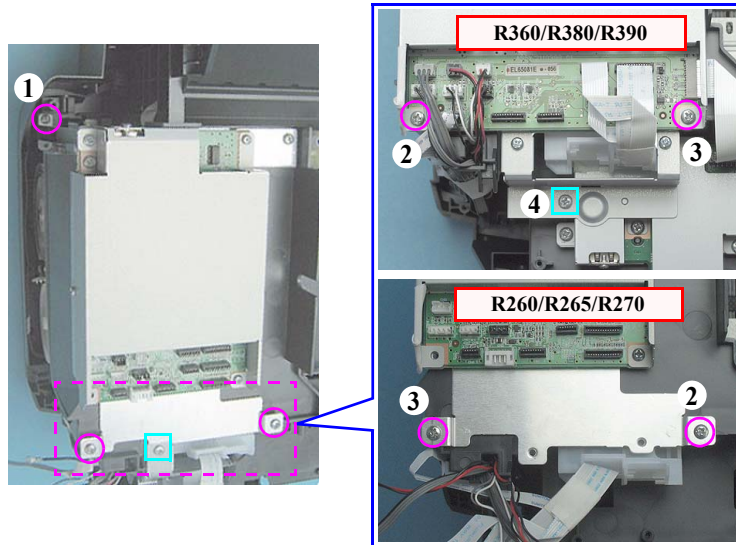

Figure 4-54. Removing the Main Board (1)
- 1. Install the MB Frame to the the Lower Housing, and make sure that the Ground Plate MB contacts with the Main Frame. (Screw (1) in Fig.4-54)
- 2. Install the Main Board Unit screwing it in the order given in Fig.4-54.